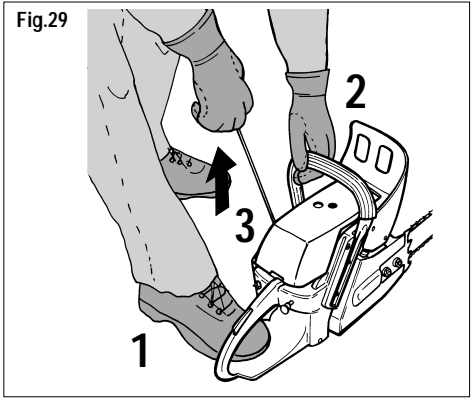

Fig.29
- 5) Hold the chainsaw fast as shown in fig. 29.
- 6) Give the starter cord handle a strong pull, until the first coughs from the engine (normally not more than 4/5 times) fig. 29.
8) Continue to pull the starter cord (fig. 29) until the engine starts.
- Hold the chainsaw firm (Fig.29) letting the engine and chain run for at least 15 seconds (for pre-heating).
3) Give the starter cord handle a strong pull until the engine starts fig. 29.